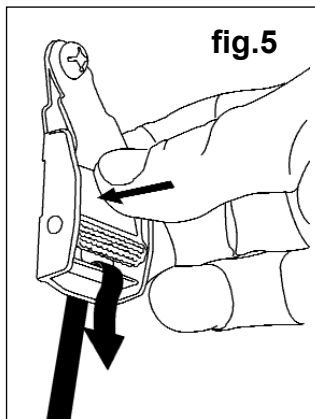
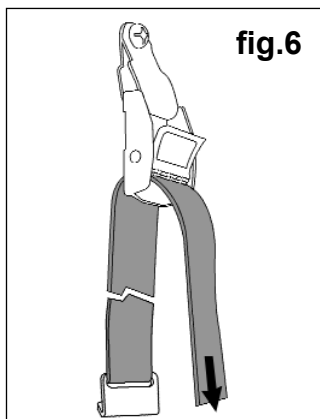

fig.5
fig.6
- 3.12 Attach the remaining two straps to the top anchor fixings as shown in fig.1. The metal clips are spring loaded shut as shown in fig.4. Hold the clip open with your thumb as shown fig.5 and thread the strap through from the back. Release the clip to grip the strap as shown in fig.6. The fixing hook at the end of each strap can be orientated either way round.